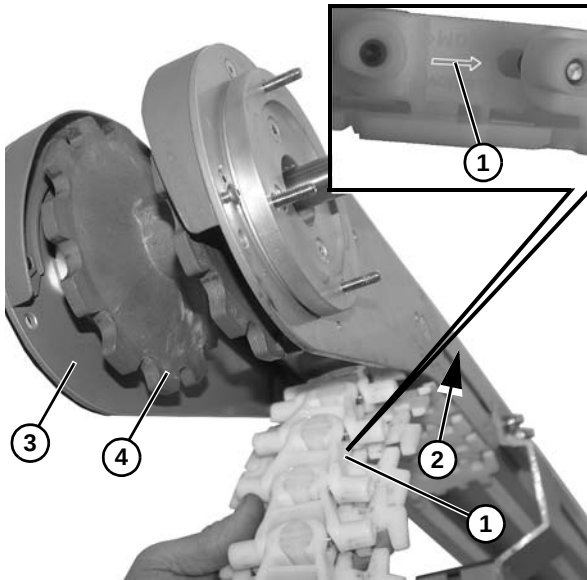

Figure 19
2. Install the belt with direction arrow (**Figure 19, item 1**) pointing in direction of belt travel (**Figure 19, item 2**). Install belt from under tail end (**Figure 19, item 3**) and onto cogs (**Figure 19, item 4**) of shaft.